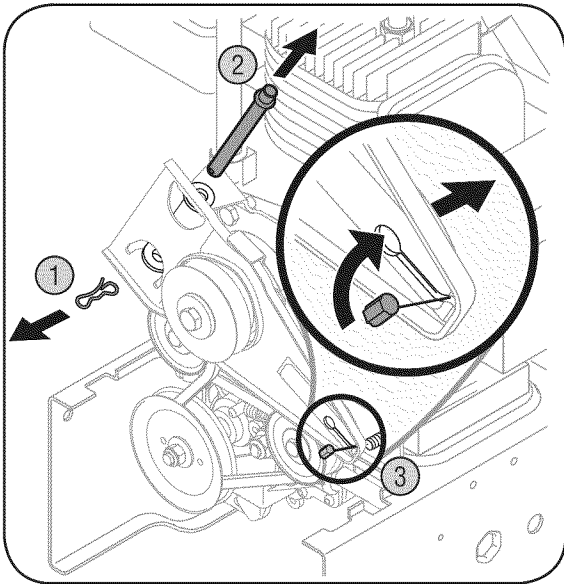

Figure 15
1. Remove hairpin clip and pivot rod from unit. See Steps 1 and 2 in Figure 15.
3. Pull idler pulley on right hand side out, releasing tension on drive belt. Remove drive belt from idler pulley and transmission pulley. See Steps 1 thru 3 in Figure 15.